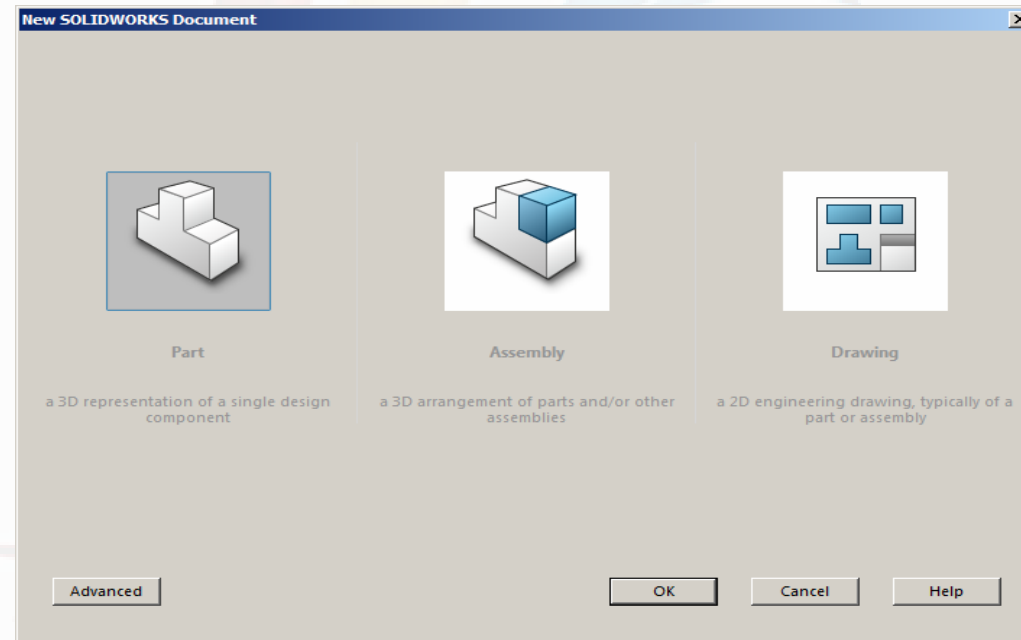

Figure 58 The **New SOLIDWORKS Document** dialog box
2. Switch to the sketching environment, refer to **Figures 58** and **59**.